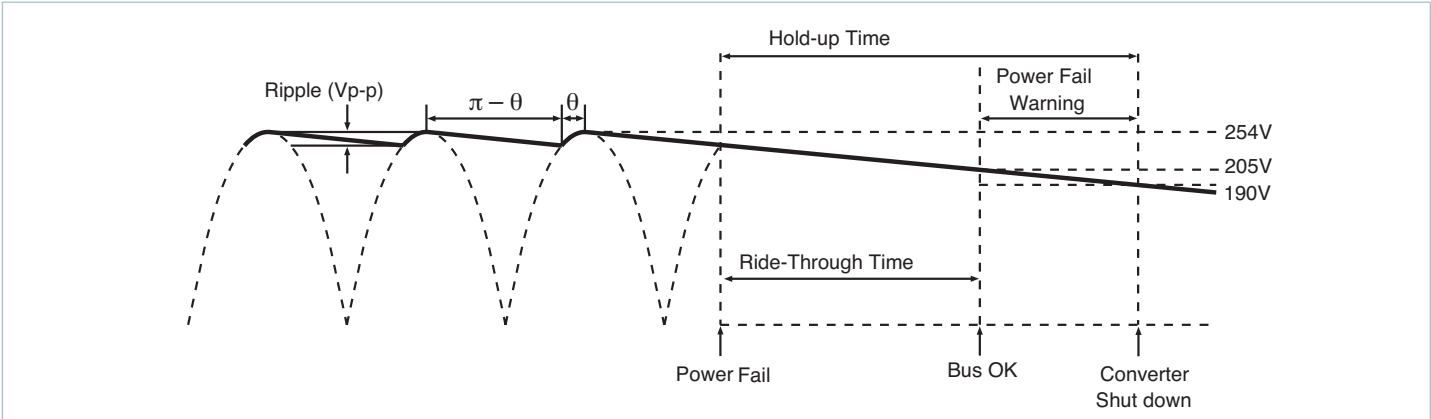

Figure 13 — Hold-up time
Hold-up Capacitors: Hold-up capacitor values should be determined according to output bus voltage ripple, power fail hold-up time, and ride-through time (See Figure 13). Many applications require the power supply to maintain output regulation during a momentary power failure of specified duration, i.e., the converters must hold-up or ride-through such an event while maintaining undisturbed output voltage regulation. Similarly, many of these same systems require notification of an impending power failure in order to allow time to perform an orderly shut down.
The power fail warning time (Δt) is defined as the interval between B OK and converter shut down (EN) as illustrated in Fig. 13. The Bus-OK and Enable thresholds are 205V and 190V, respectively. A simplified relationship between power fail warning time, operating power, and bus capacitance is obtained by inserting these constants:
For example, a converter whose output is 15V and nominal input is 300V will provide approximately 56dB ripple rejection, i.e., 10Vp-p of input ripple will produce 15mVp-p of output ripple (See Figure 17). Equation 3 is again used to determine the required capacitance. In this case, V1 and V2 are the instantaneous values of bus voltage at the peaks and valleys (See Figure 13) of the ripple, respectively. The capacitors must hold-up the bus voltage for the time interval (Δt) between peaks of the rectified line as given by: